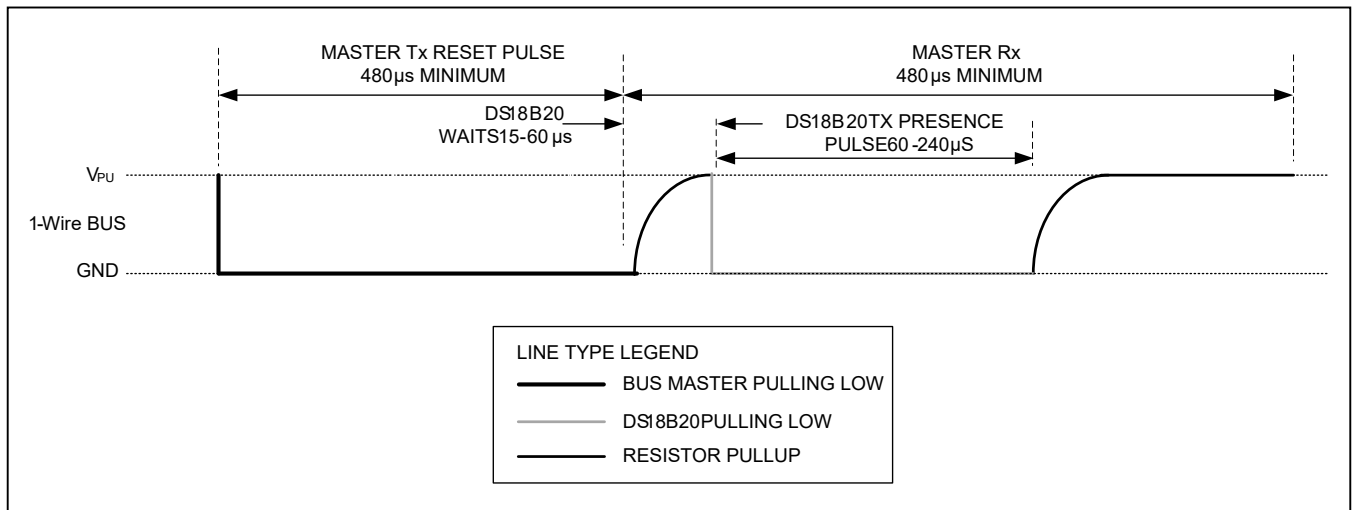

Figure 15. Initialization Timing
All communication with the DS18B20 begins with an initialization sequence that consists of a reset pulse from the master followed by a presence pulse from the DS18B20. This is illustrated in Figure 15. When the DS18B20 sends the presence pulse in response to the reset, it is indicating to the master that it is on the bus and ready to operate. During the initialization sequence the bus master transmits (TX) the reset pulse by pulling the 1-Wire bus low for a minimum of 480 μ s. The bus master then releases the bus and goes into receive mode (RX). When the bus is released, the 5k Ω pullup resistor pulls the 1-Wire bus high. When the DS18B20 detects this rising edge, it waits 15 μ s to 60 μ s and then transmits a presence pulse by pulling the 1-Wire bus low for 60 μ s to 240 μ s.